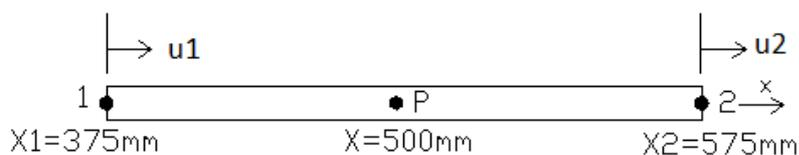

Fig.2
25. Consider a 2 noded bar element shown in Fig.2. Cross sectional area of the bar is 600 mm² and Young's modulus is 2 X 10⁵ N/mm². If u₁=0.625 mm and u₂=0.75 mm. Calculate the following [K₂]